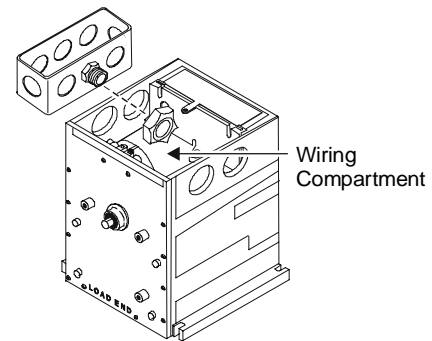

Figure 6: Wiring the Junction Box
- Locate all splicing and excess wiring outside the actuator wiring compartment. If desired, add a standard electrical box to the actuator's wiring compartment. (See Figure 6.)